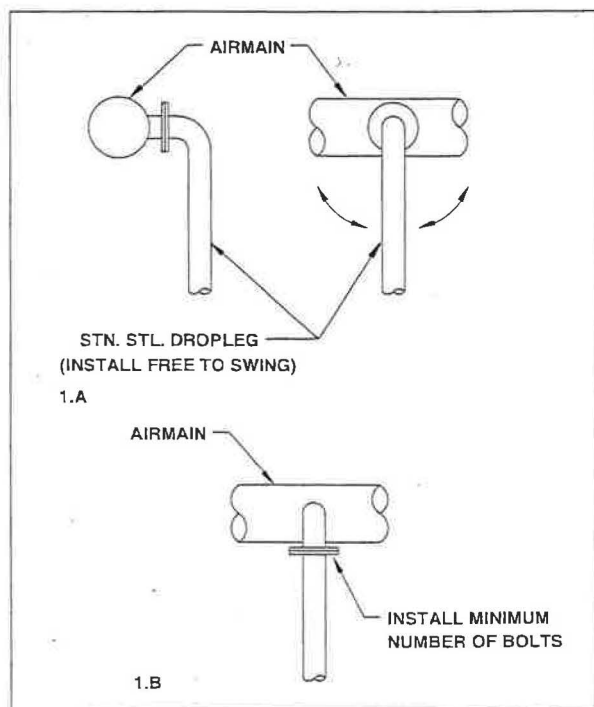

Figure 1
When the upper dropleg is installed properly it should be vertical with its centerline located as shown on the erection drawings. (See Figure 1) The droplegs are shipped with protective end plugs which require removal prior to installation.
A) Droplegs with a top connecting elbow, as shown in Figure 1.A, should be bolted and tightened to the air main connection to a point which will allow the dropleg to be swung to the side when installing the lower PVC portion of the dropleg.
B) Droplegs with a horizontal flange connection, as shown in Figure 1.B, should be temporarily bolted tightly to the air main connection with a minimum number of bolts. The dropleg will have to be removed to install the lower PVC portion of the dropleg.